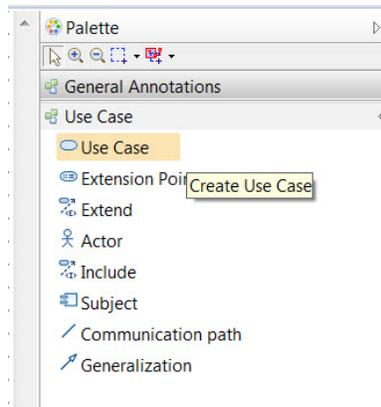
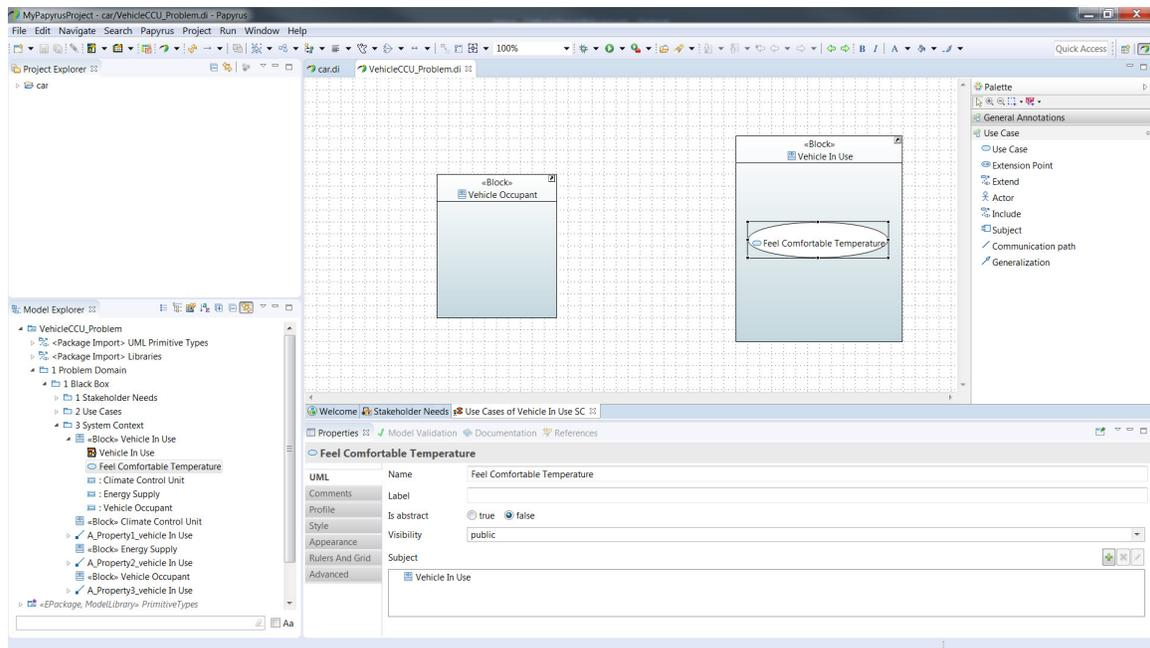

Figure 31: Use Case Tool Palette
Figure 32: Vehicle Occupant block in Use Case Diagram
- In our analysis of stakeholder needs we have identified the *Feel Comfortable Temperature* use case performed in the *Vehicle In Use* system context. We will now capture this use case in the *Use Cases of Vehicle In Use* SC diagram. The tool palette on the right should be displaying the Use Case tool palette. Left-click on the *Use Case* item (figure 31) and then Left-click anywhere in the *Vehicle In Use* block. A use case is created in this block. Name this use case *Feel Comfortable Temperature* and press Enter. Your screen should look like (figure 32).